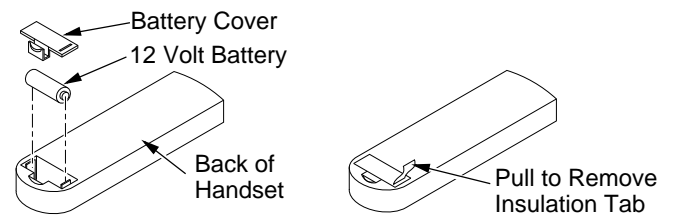

Figure 14 - Installing Battery into Back of Handset
3. Activate the remote handset battery by removing the insulating tab on the back of the handset (see Figure 14). The battery is included pre-installed.